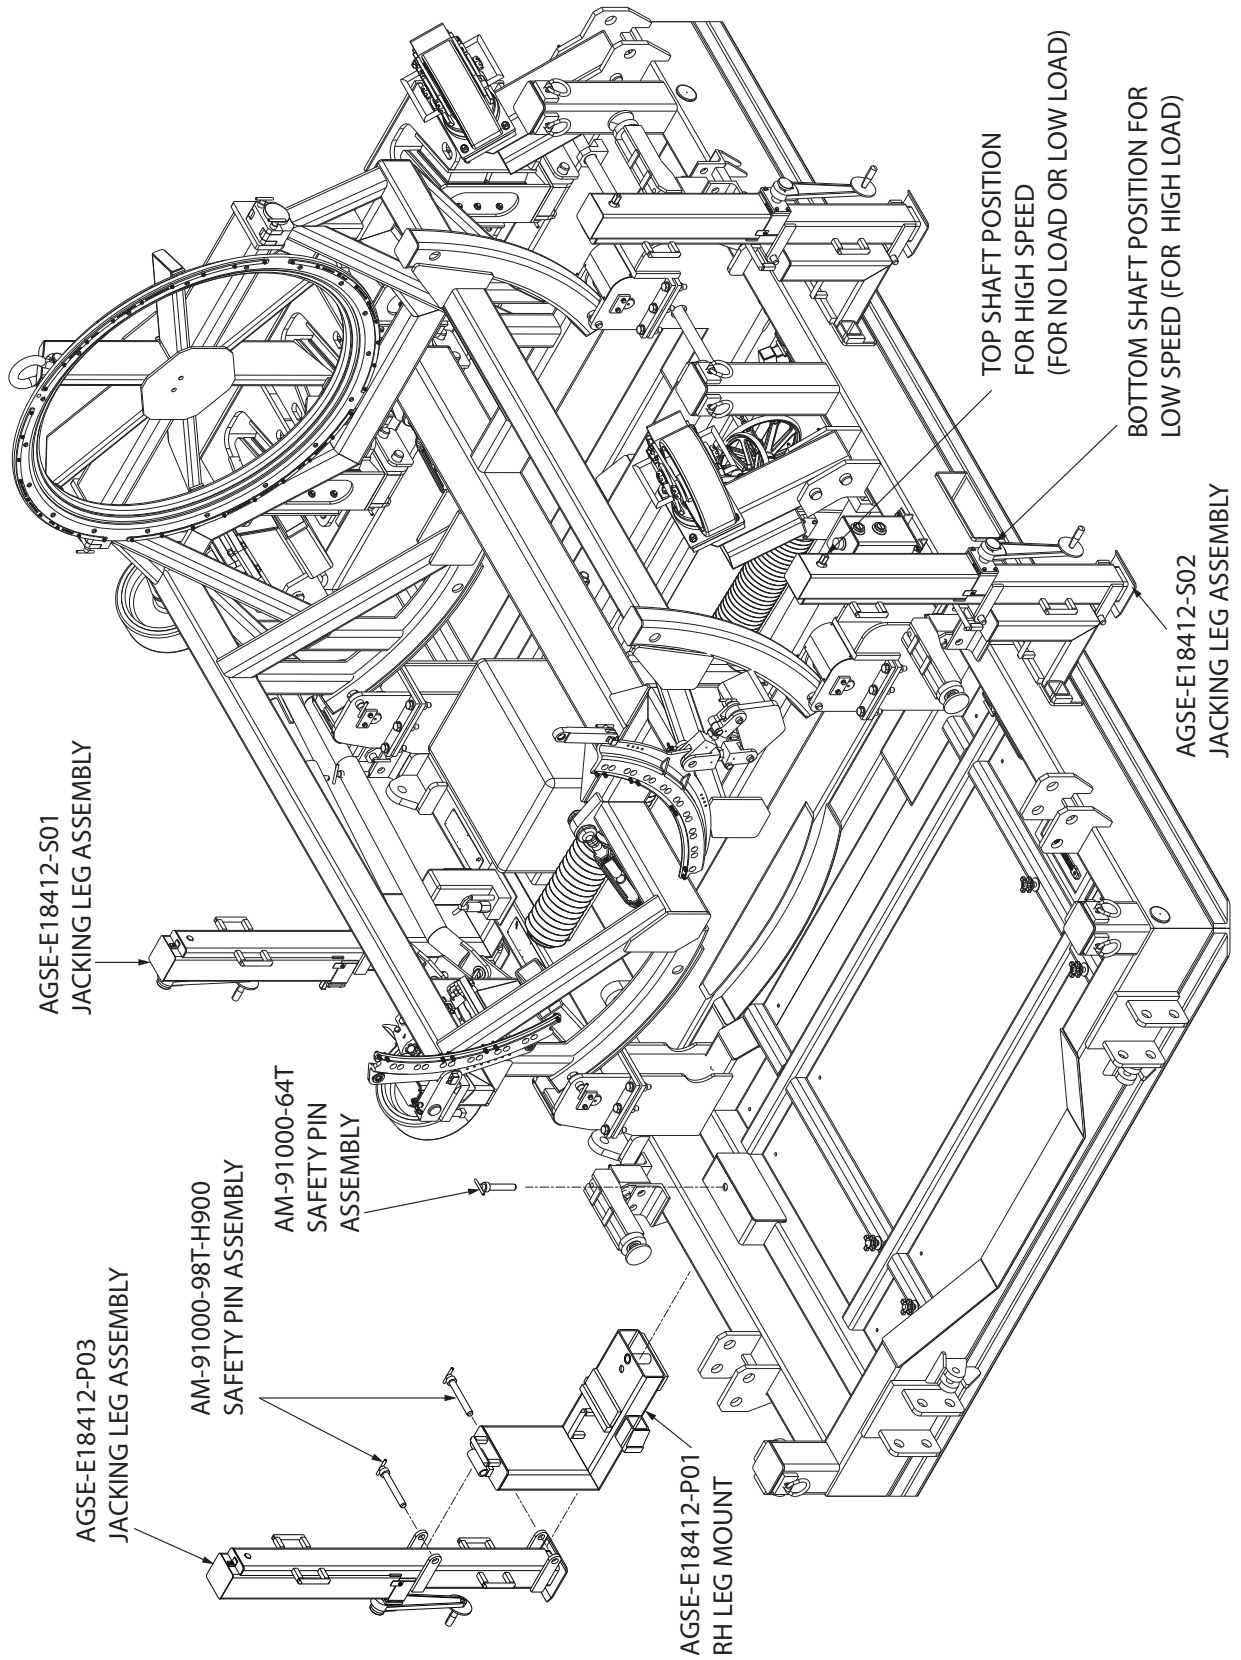

Figure 5.9-1
1. Install the two (2) AGSE-E18412-P01 RH and two (2) AGSE-E18412-P02 LH leg mount adapter assemblies in the jacking leg mounting sockets on the base. Secure using the AM-91000-64T safety pins. (Figure 5.9-1).